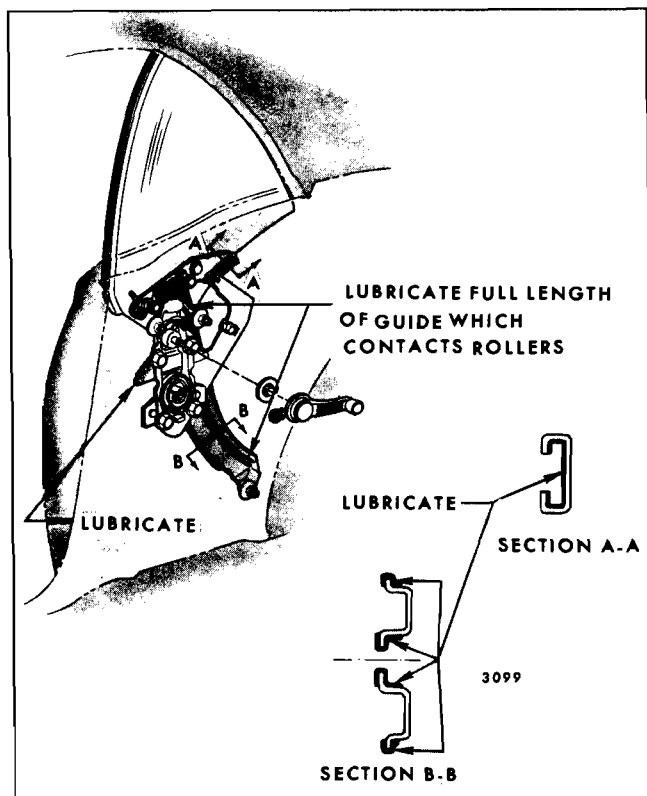

Fig. 2-9—"A-B-C-F" Styles - Quarter Window Regulator Lubrication
1. Apply a thin coat of white lithium soap grease lubricant (Fiske Bros. Lo-Temp. Lubriplate #777 or equivalent) to the friction areas indicated (Figs. 2-9 & 2-10).
2. Cover the entire length of the inner surface of all guides with Fiske Bros. Lo-Temp. Lubriplate #777 or equivalent as shown in the cross sections (Fig. 2-9 & 2-10).